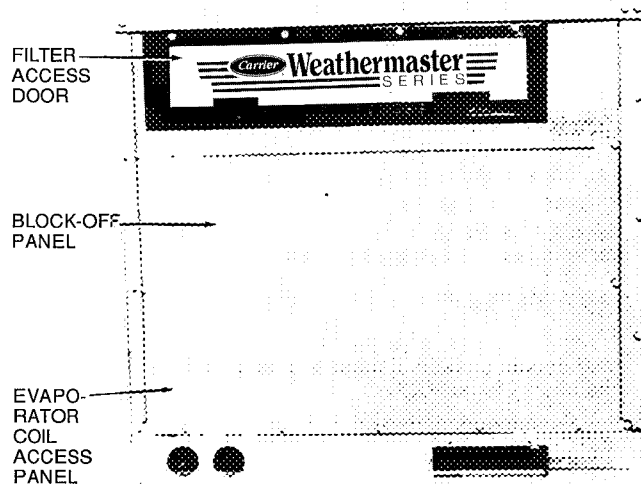

Fig. 12 — Access Panel Location
2. Remove evaporator coil access panel. Save panel and screws. See Fig. 12.
4. Remove block-off panel from evaporator coil access panel and discard. Save screws. See Fig. 12.